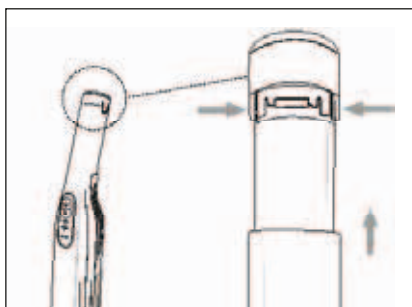

Fig. 10
- ◆ To remove the battery ❶ from the appliance, press and hold the two battery release buttons ❷ and pull the battery ❶ out of the appliance (see Fig. 10).